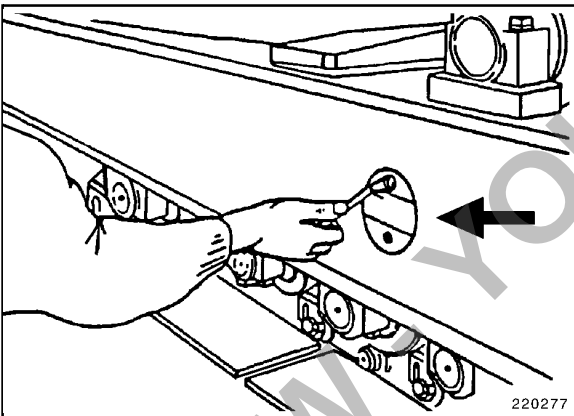

Fig. 1
- Remove cover (Fig. 1).
- Reattach cover (Fig. 1).